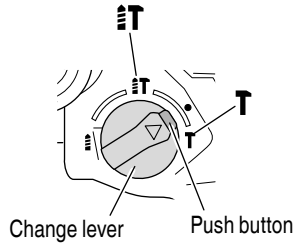
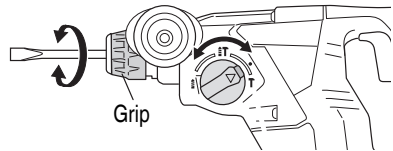

Fig. 20
Fig. 21
- (1) Mount the bull point or cold chisel.
- (2) Press the push button and set the change lever to middle of 'T' mark and 'T' mark (Fig. 20). The rotation is released, turn the grip and adjust the cold chisel to desired position (Fig. 21).